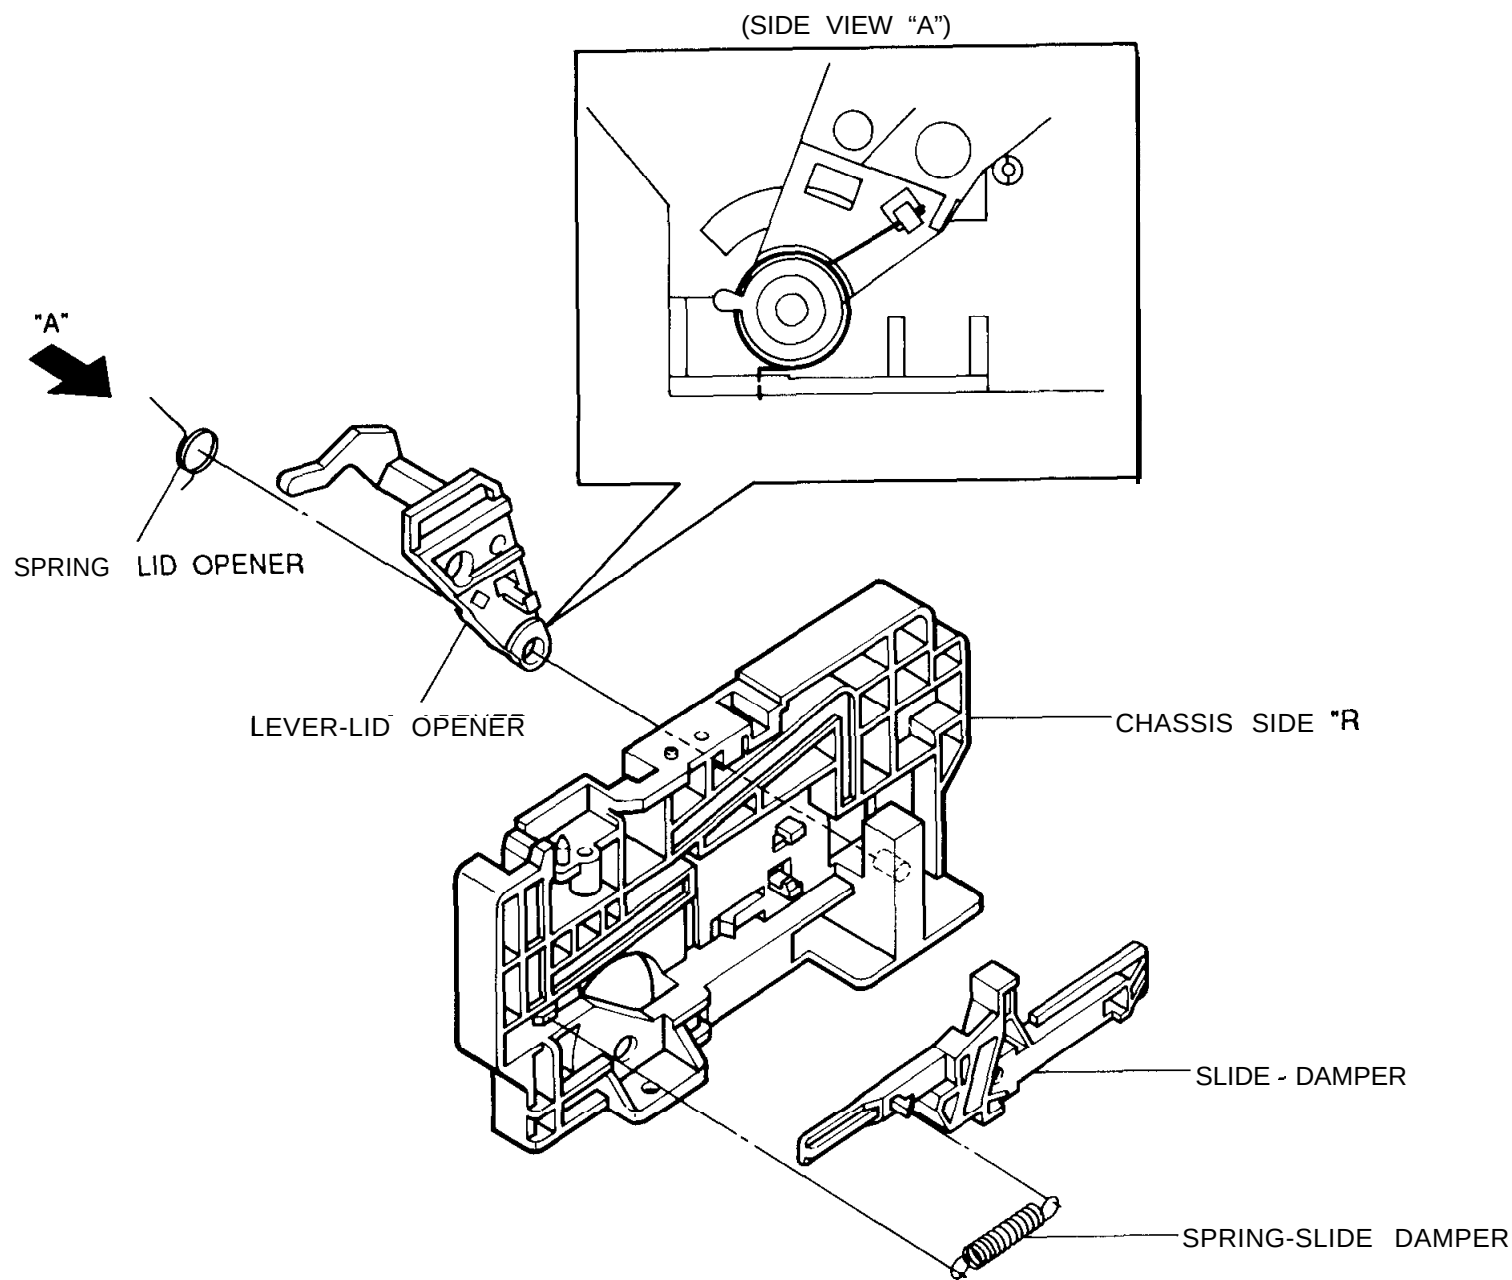

Fig. 16 Chassis Side "R" Parts Locations
- 1) Make sure that phase matching holes of the motor rotor & the cylinder sub ass'y are aligned correctly as shown in Fig. 16 (Refer to phase matching hole)
- 2) Reinstall the retainer lever ass'y @and secure with two(2) screws.